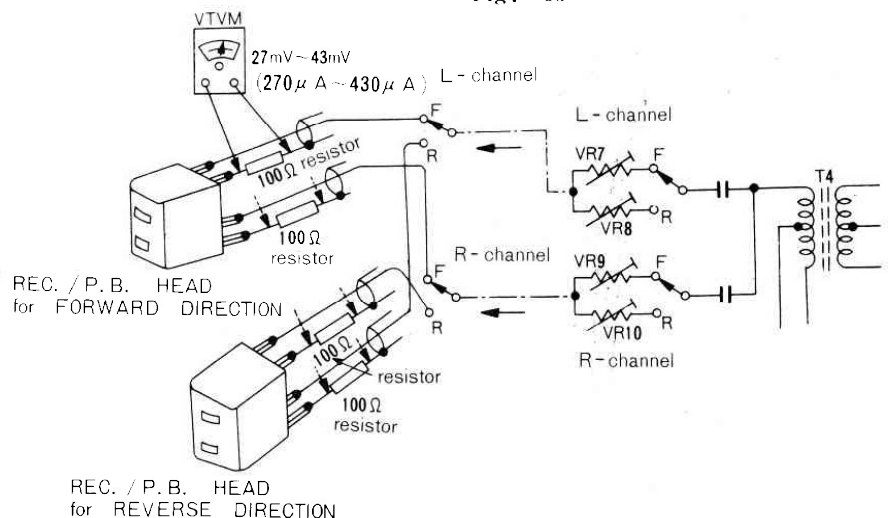

Fig. 34
- c) Connect a VTVM as shown in Fig. 34 and adjust the Semi-variable (F direction: VR7, VR9, R direction: VR8, VR10) so that current intensity will be $350 \mu A \pm 80 \mu A$.